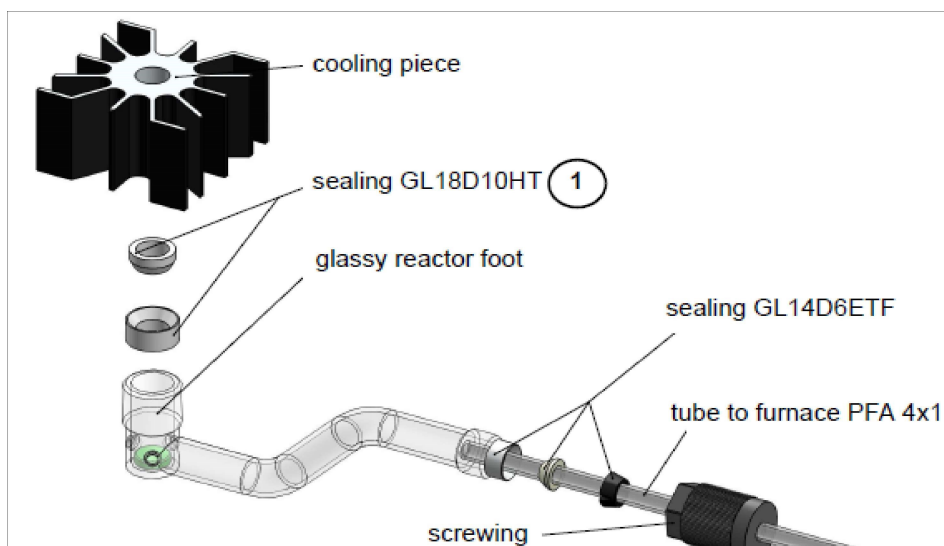

Fig. 105: Reactor foot with cooler
9. Remove the two gaskets (1, Fig. 105, page 150) between the furnace base and heat sink.